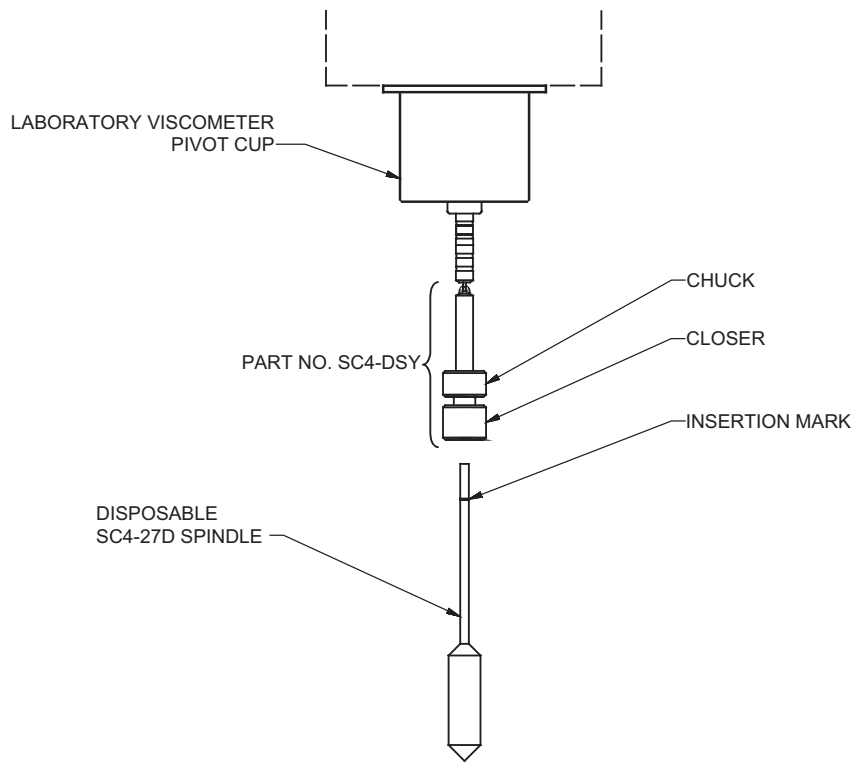

Figure C-2: Standard
Disposable Spindle Instructions (see Figures C-2 and C-3)
4. For standard assembly, attach the assembly (spindle and chuck) to the viscometer being careful to hold the pointer shaft firmly and lift up slightly. See Figure C-2.